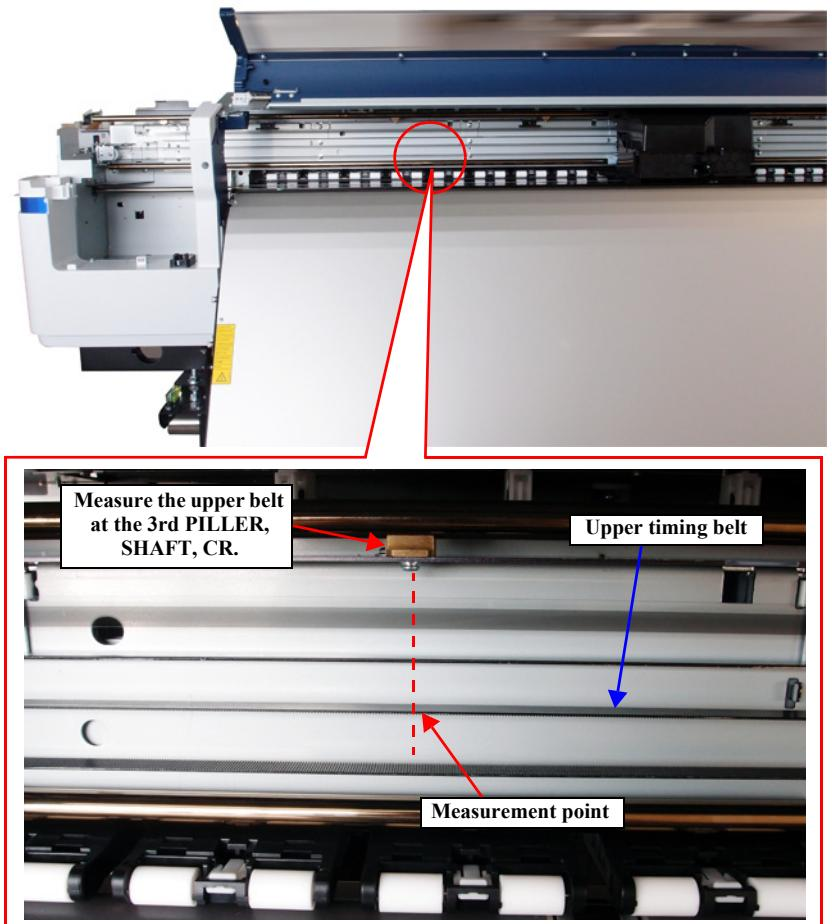

Figure 4-28. Measuring the belt tension
10. Bring the microphone of the tensimeter closer to the position shown in Figure 4-28.